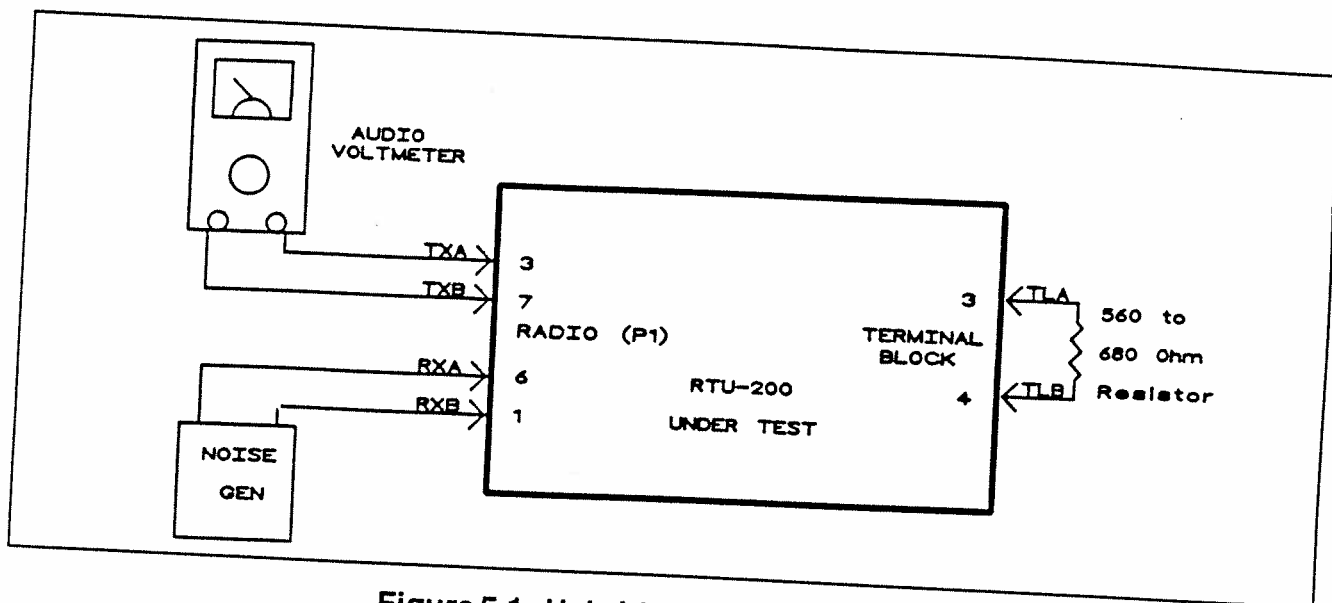

Figure 5.1 - Hybrid Balance Test Set-Up
The procedure for this test using a noise generator is listed in paragraph 5.5.2.1. If a noise generator is not available, the alternate test method which employs an audio signal generator (see paragraph 5.5.2.2) may be used. Figure 5.1 shows equipment interconnections necessary to perform this test.
1. Disconnect the RTU-200 from all other equipment and connect the test equipment as shown in figure 5.1.
1. Disconnect the RTU-200 from all other equipment and connect the test equipment as shown in figure 5.1, except use an audio signal generator in place of the noise generator.